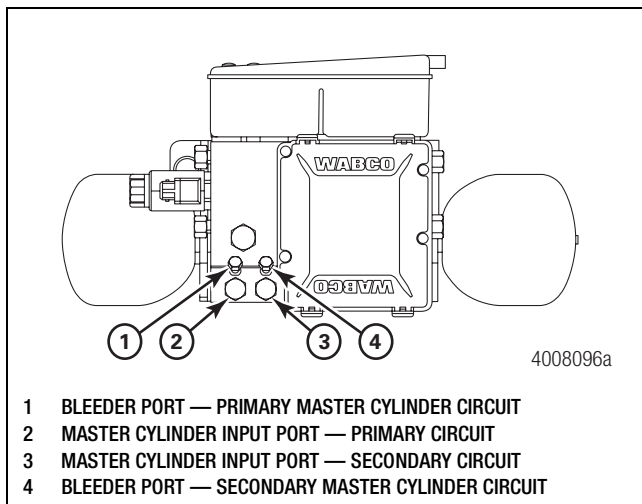

Figure 5.1
9. Remove the rubber caps from the two relay valve bleeder screws located on the hydraulic control unit (HCU). Figure 5.1.